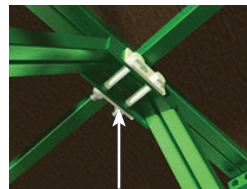

fig. 3.23
- 4- If using at least one new generation bridge in the installation, install the third forward extension plate assembly at the **TOP** in the middle of the bridge structure by positioning the plates so the holes align with the holes on the plate in the middle of the bridge structure (fig. 3.23, p. 54). Secure with bolt assemblies.